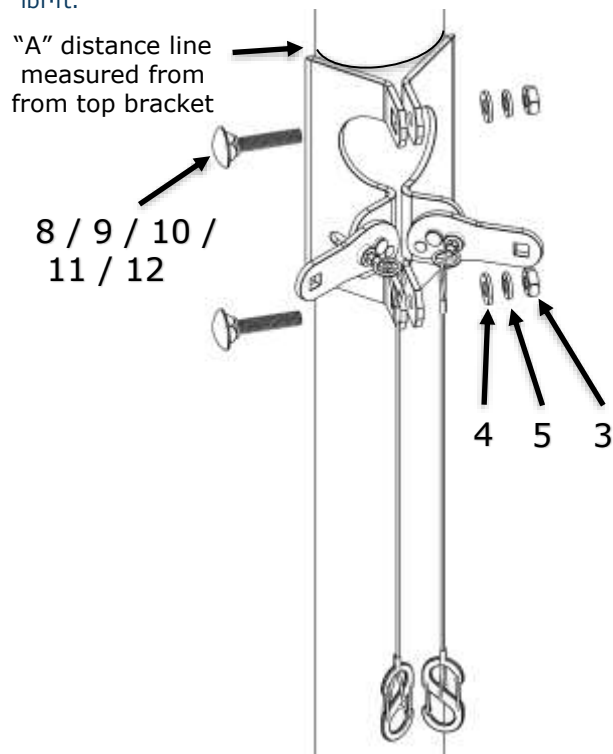
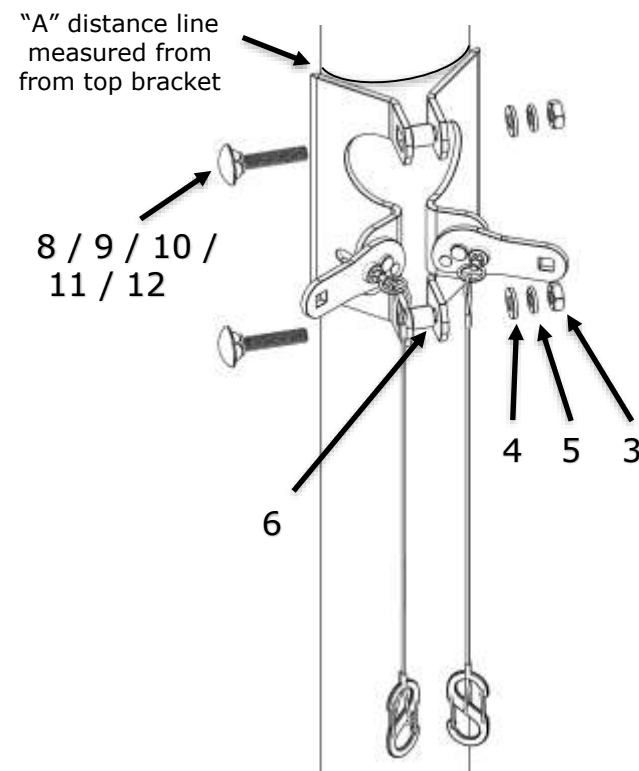

Figure 13: Attach middle brackets to pole – 3.5" diameter shown as example
Figure 14: Attach middle brackets to pole – 4.0" diameter shown as example
9. Install three middle brackets around the pole with selected hardware. See *Figure 13* (example 3.5" pole diameter) and *Figure 14* (example 4" pole diameter). Align the top edge of the middle brackets to the mark made in Step 8.